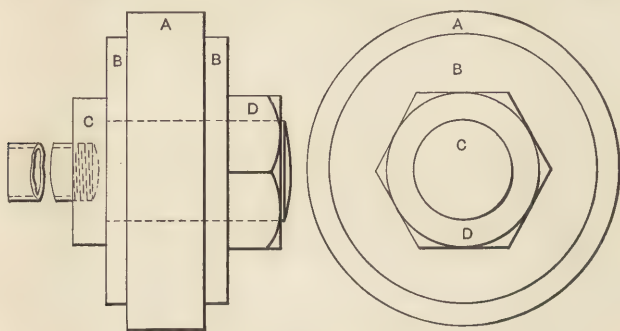

Fig. 25. Large Roll Arranged for Hardening.
**Hardening Large Rolls.**—In Fig. 25 is shown how to arrange a steel roll that must be treated so as to be very hard on the outside, and that needs to be hardened on the outside only. The roll *A* is placed upon a center stud between two washers *BB*. *C* is a shoulder on the stud against which the washers and the roll are clamped